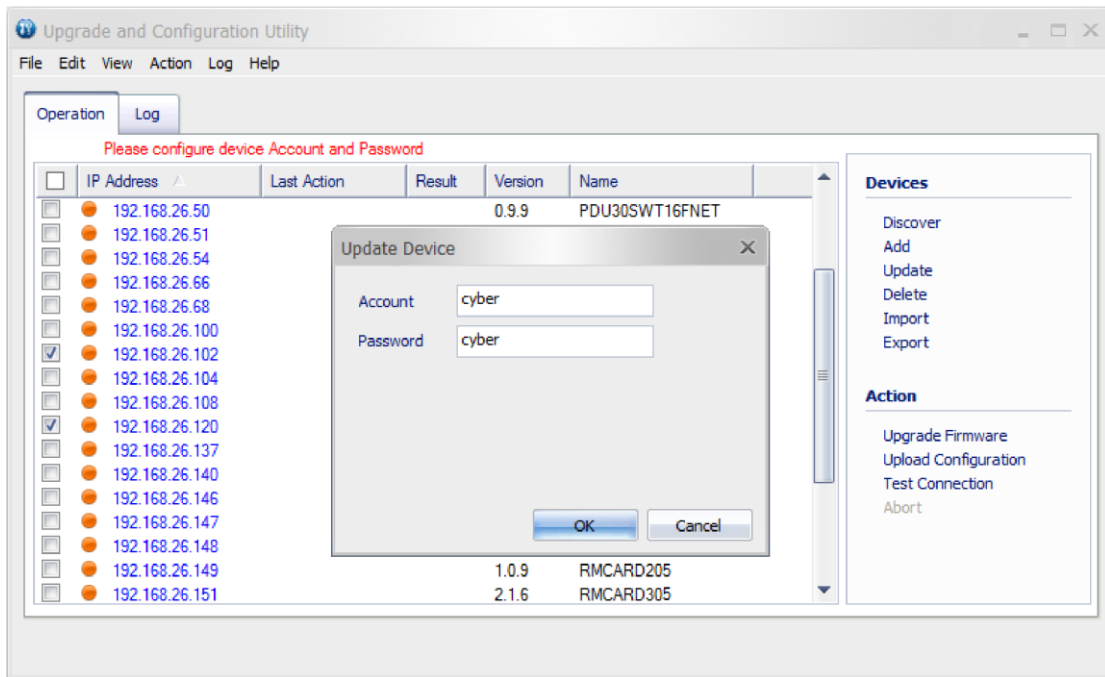

Figure 3.
5. Click on "Update" and type in the Account and Password for the selected devices. And click on "Test" to make sure Account and Password are valid (shown in Figure 3.).